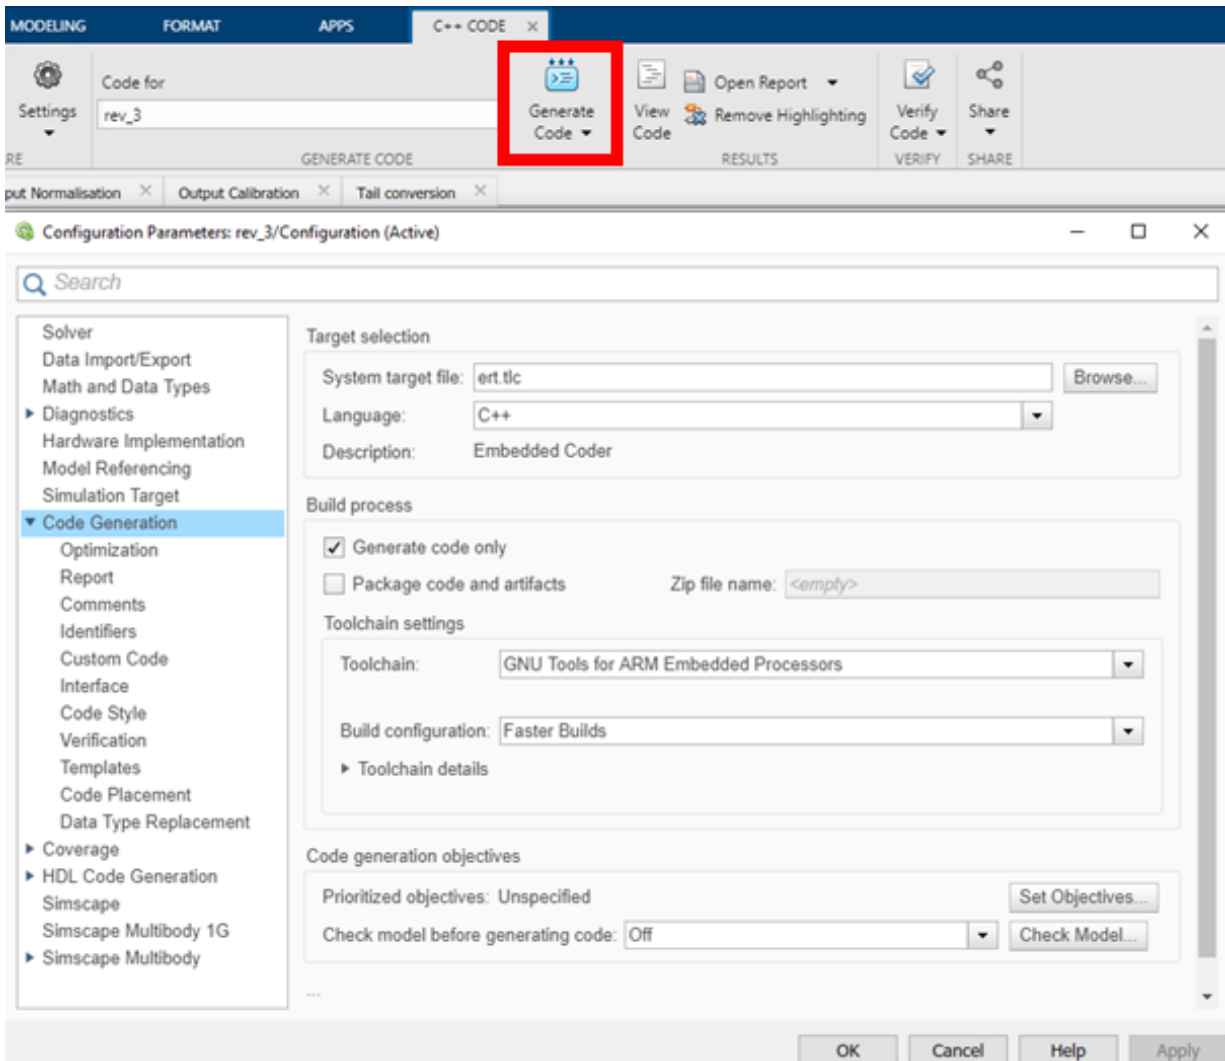

Figure 28: Settings for Code Generation.
3. **Restart MATLAB:** MATLAB has to be restarted. After the restart, the installed support package will automatically set MATLAB/Simulink preferences to the configuration that can be seen in Fig. 28.
The code can then be generated by clicking `Generate Code` (see Fig. 28). When the code generation is successful, MATLAB will show the Code Generation Report window with details of the generated code (e.g. the path of the selected code generation folder); otherwise the Diagnostic Viewer will be shown for debugging. To upload the generated flight controller code to the Pixhawk, review and follow the steps described in Sec. 3.5.